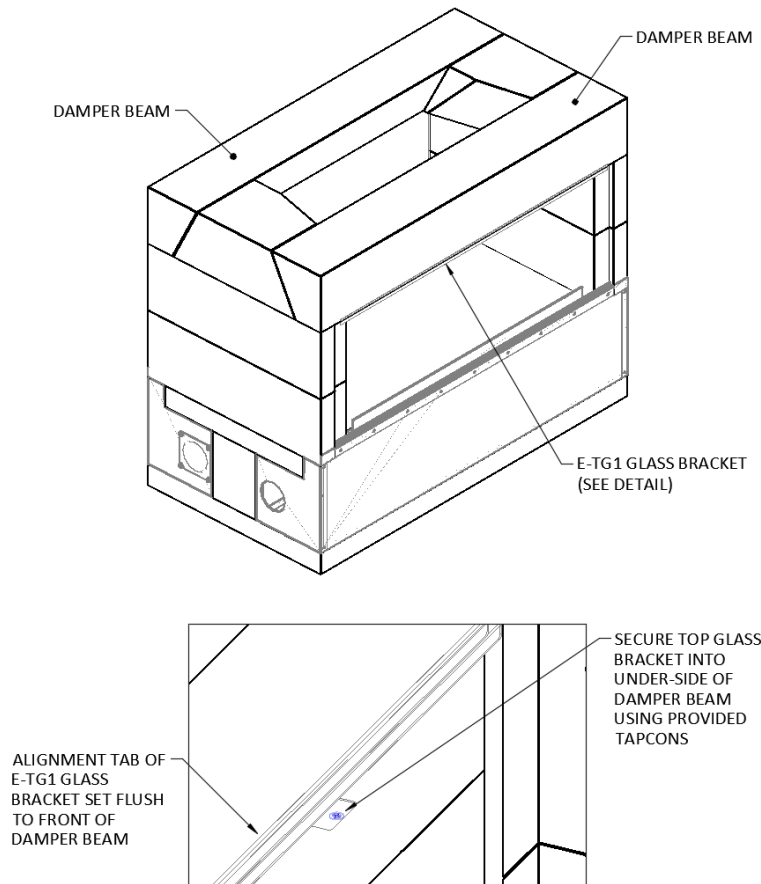

FIGURE 16
- 10) For the 48" model, secure the Top Glass Bracket B (E-TG1) to the underside of the front damper beams using the provided 1/4" tap-con screws. The tap-con screws will require a 3/16" pilot hole to be drilled prior to attachment. It is recommended to coat the 1/4" tap-con screw with Earthcore Adhesive before inserting into pilot hole to create a sealed fastening (Figure 16).